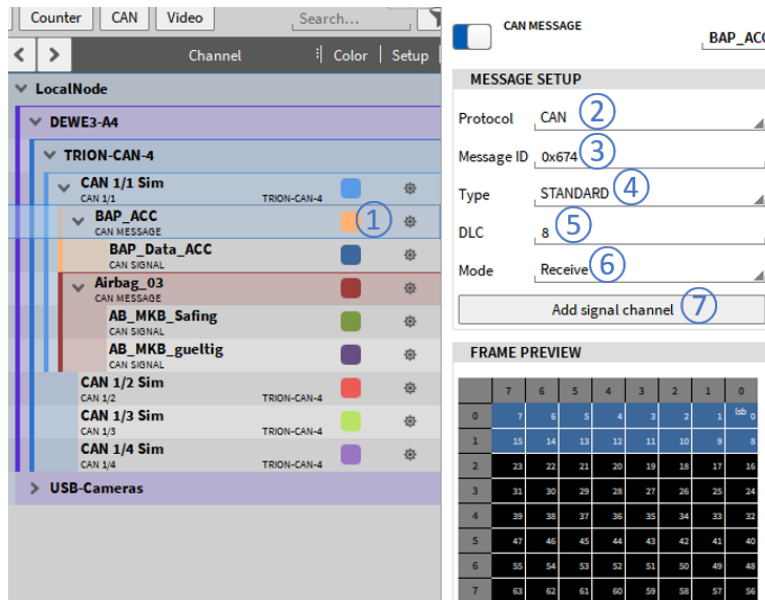

Fig. 7.207: CAN message channel setup
The CAN message setup can be accessed by pressing the gear button of the respective CAN message in the Channel List (see ① in Fig. 7.207).
- Protocol type (see ② in Fig. 7.207): CAN or J1939 or CAN-FD (if applicable)
- Message ID (see ③ in Fig. 7.207): The message's ID can be set from 0x00 to 0x7ff
- Message Type (see ④ in Fig. 7.207): Standard or Extended
- DLC (see ⑤ in Fig. 7.207): The DLC can be set from 0 ... 8 (...64 for CAN-FD)
- Mode (see ⑥ in Fig. 7.207): The Mode can be set from Receive (Receiving CAN data) to Transmit (Outputting OXYGEN data over CAN).
- Add signal channel (see ⑦ in Fig. 7.207):